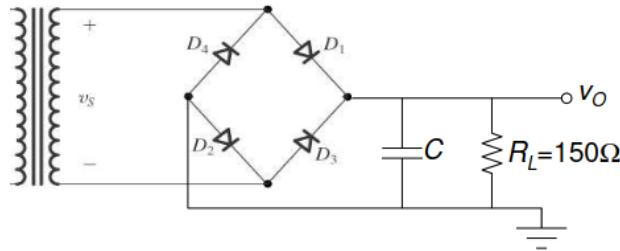

Figure 4: Setup for task 2, part 1. Note that in our case  $R_L = 1\text{k}\Omega$ , this diagram was taken from the lecture slides.
**Part 1.** The setup can be seen in figure 4.